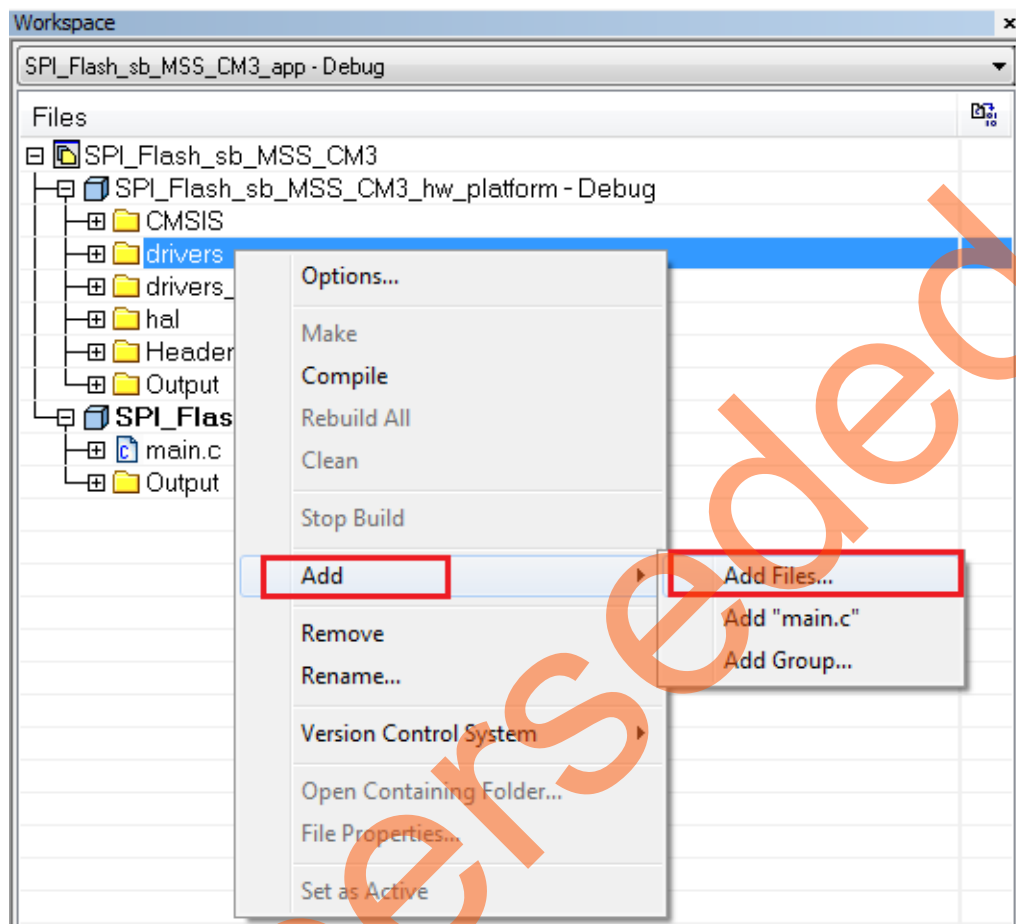

Figure 22 • IAR Workspace Window - Add winbondflash SPI Driver Files
7. Right-click and add the driver files (winbondflash.c & winbondflash.h) to the SPI\_Flash\_sb\_MSS\_CM3\_hw\_platform project in the IAR workspace as shown in Figure 22.